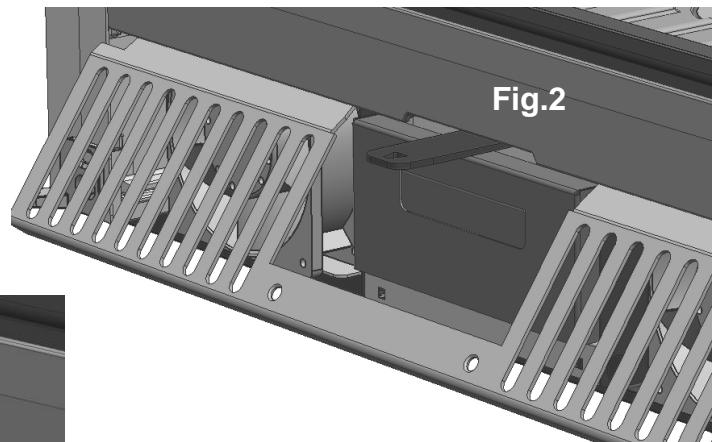

Fig.2
1. Release the front grille by loosening the two screws at the bottom (Fig.1 and Fig.2)